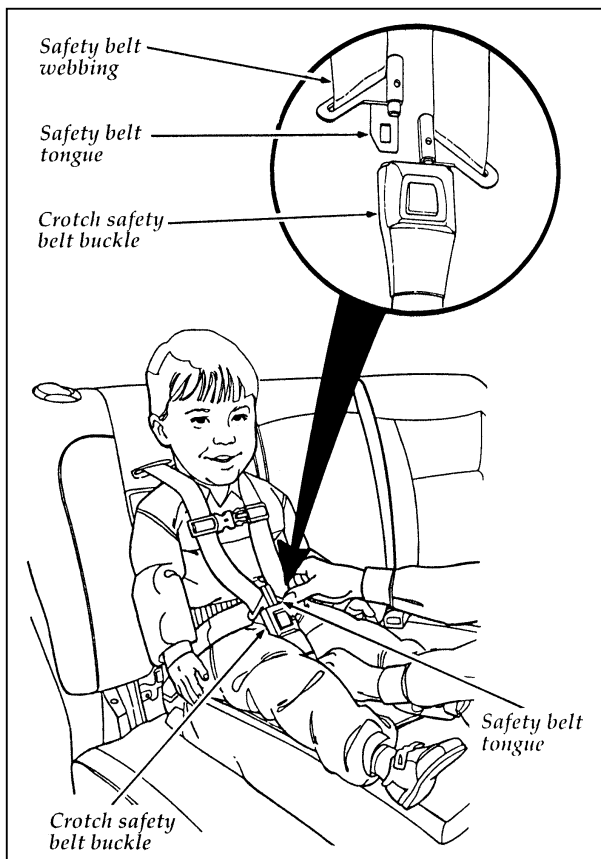

Figure 6: Fastening the crotch safety belt buckle
7. Insert either the left or right safety belt tongue into the single opening of the crotch safety belt buckle as shown in Figure 6. (It does not matter which tongue is inserted first.) Then insert the other tongue. Allow belts to retract and fit snugly.